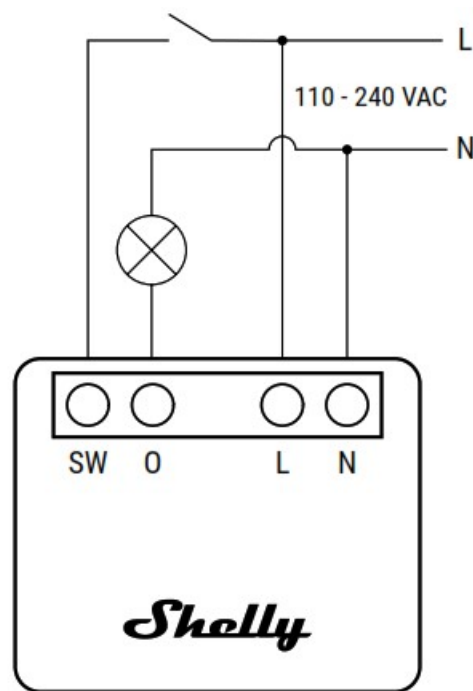

Fig. 1
**RECOMMENDATION:** Connect the Device using solid single-core cables or stranded cables with ferrules. The cables should have insulation with increased heat resistance, not less than PVC T105°C (221°F). Before starting the mounting/installation of the Device, check that the breakers are turned off and there is no voltage on their terminals. This can be done with a phase tester or multimeter. When you are sure that there is no voltage, you can proceed to connecting the cables. Connect the load to the O terminal of the Device and the Neutral wire, as shown on fig. 1. Connect the Live wire to an L terminal of the Device. Connect the Neutral wire to an N terminal of the Device. Connect a switch or a button to the Device SW terminal and any of the unused L terminals of the Device.